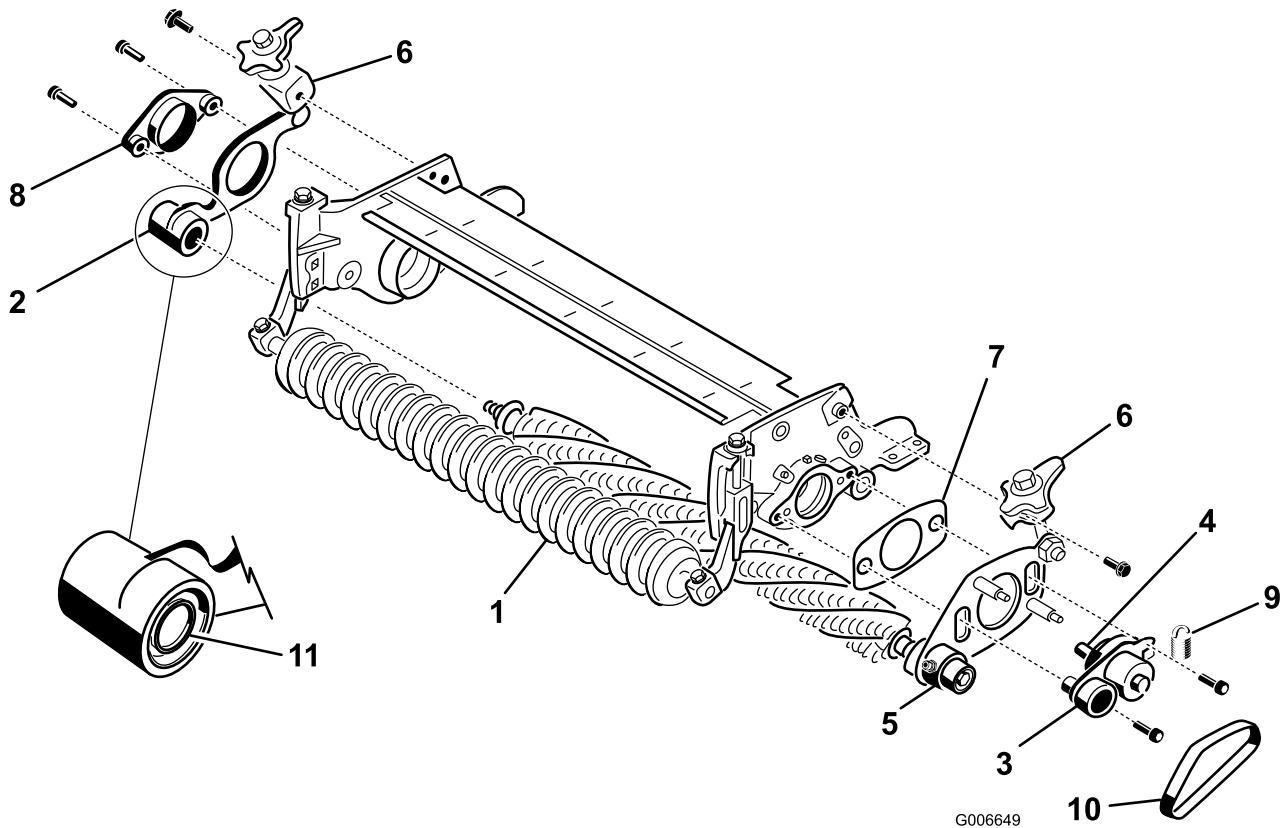

Figure 9
14. On the **non-drive** side of the groomer assembly, slide the groomer plate with quick-up lever off the groomer shaft assembly (Figure 9).
16. On the drive side of the cutting unit, mount the pivot hub, the drive side groomer plate with quick-up lever and the shim to the cutting unit side plate with (2) 3/8 x 1 inch socket head screws (Figure 9). Apply blue Loctite to the screw threads prior to installation.
17. Install the non-drive groomer plate onto the groomer shaft (Figure 9). Be careful not to knock the seal spring off.
18. Secure the non-drive pivot hub to the cutting unit side plate with (2) 3/8 x 1 inch socket head screws (Figure 9). Apply blue Loctite to the screw threads prior to installation.
20. Mount the quick-up lever assemblies to the side plates with 3/8 x 3/4 inch flange head bolts (Figure 9).
21. Install the groomer belt onto the pulleys (Figure 9). Make sure the ribs on the belt are properly seated in the grooves on each pulley.